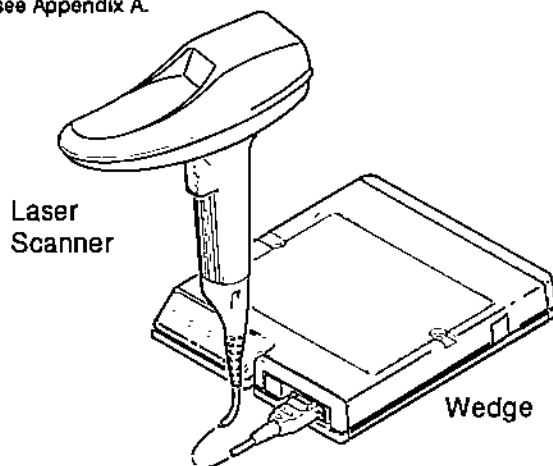

Figure 2-3
1. Locate the laser scanner connector (Figure 2-3) on the front panel of the wedge reader.